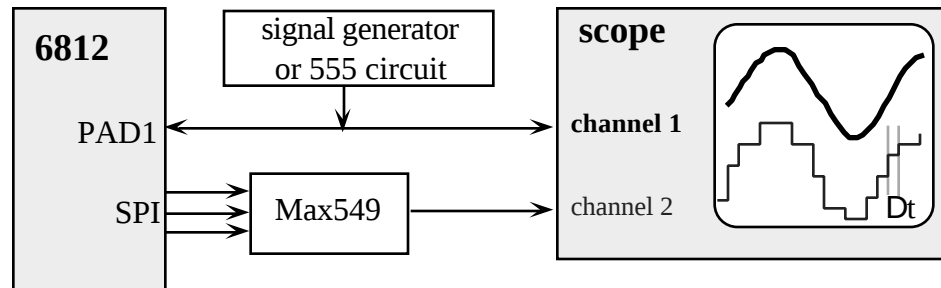

Figure 22.7. Connect a signal generator to the 6812 ADC channel 1, and to one channel of a scope. Connect the DAC output to the other scope channel.
1. *Basic understanding:* The purpose of this section is to verify the **Nyquist Theorem** and the **Valvano Postulate**. Generate a continuous waveform (0 to +5V) with an adjustable frequency from 10 Hz to 10 kHz. Consider using a function generator, or the capacitor voltage of a 555 timer. First connect the analog waveform to a scope and verify the voltage range is between 0 and +5V. VOLTAGES OUTSIDE THIS RANGE WILL DAMAGE THE 6812. Next connect the signal to 6812 port ATD1 as shown in Fig. 22.7. In this part, we will not be using
Sketch the two waveforms in your lab notebook. Use the logic analyzer (or a regular scope) to verify the ADC sampling rate. In particular, measure the Dt time step in the DAC output waveform, as shown in Fig. 22.7. Describe what happens as the input waveform frequency goes from 10 Hz to 10kHz. Be prepared to explain your results during checkout.
2. Digital Filter Performance: Experimentally determine the gain versus frequency responses of your digital filters. Perform the digital filter on the ADC samples, output the filter results to the DAC. Run the ADC, digital filter, DAC at your chosen sampling rate. Just like part 1, put both the ADC input voltage and the DAC output voltage on a dual channel scope, i.e., Fig. 22.7. Vary the input frequency from 0 to 1/2 the sampling rate and plot the gain versus frequency response of your three digital filters (be careful not to violate the 0 +5V 6812 input range). In particular, test your 60 Hz notch filters by connecting input at frequencies near 60 Hz, e.g., 50,55,59,60,61,65,70 Hz. Test the filters first with a sine wave and then with a square wave. Compare the results. Compare to the expected results. Consider using a software scheme to calculate the amplitudes of the input and output waves. E.g.